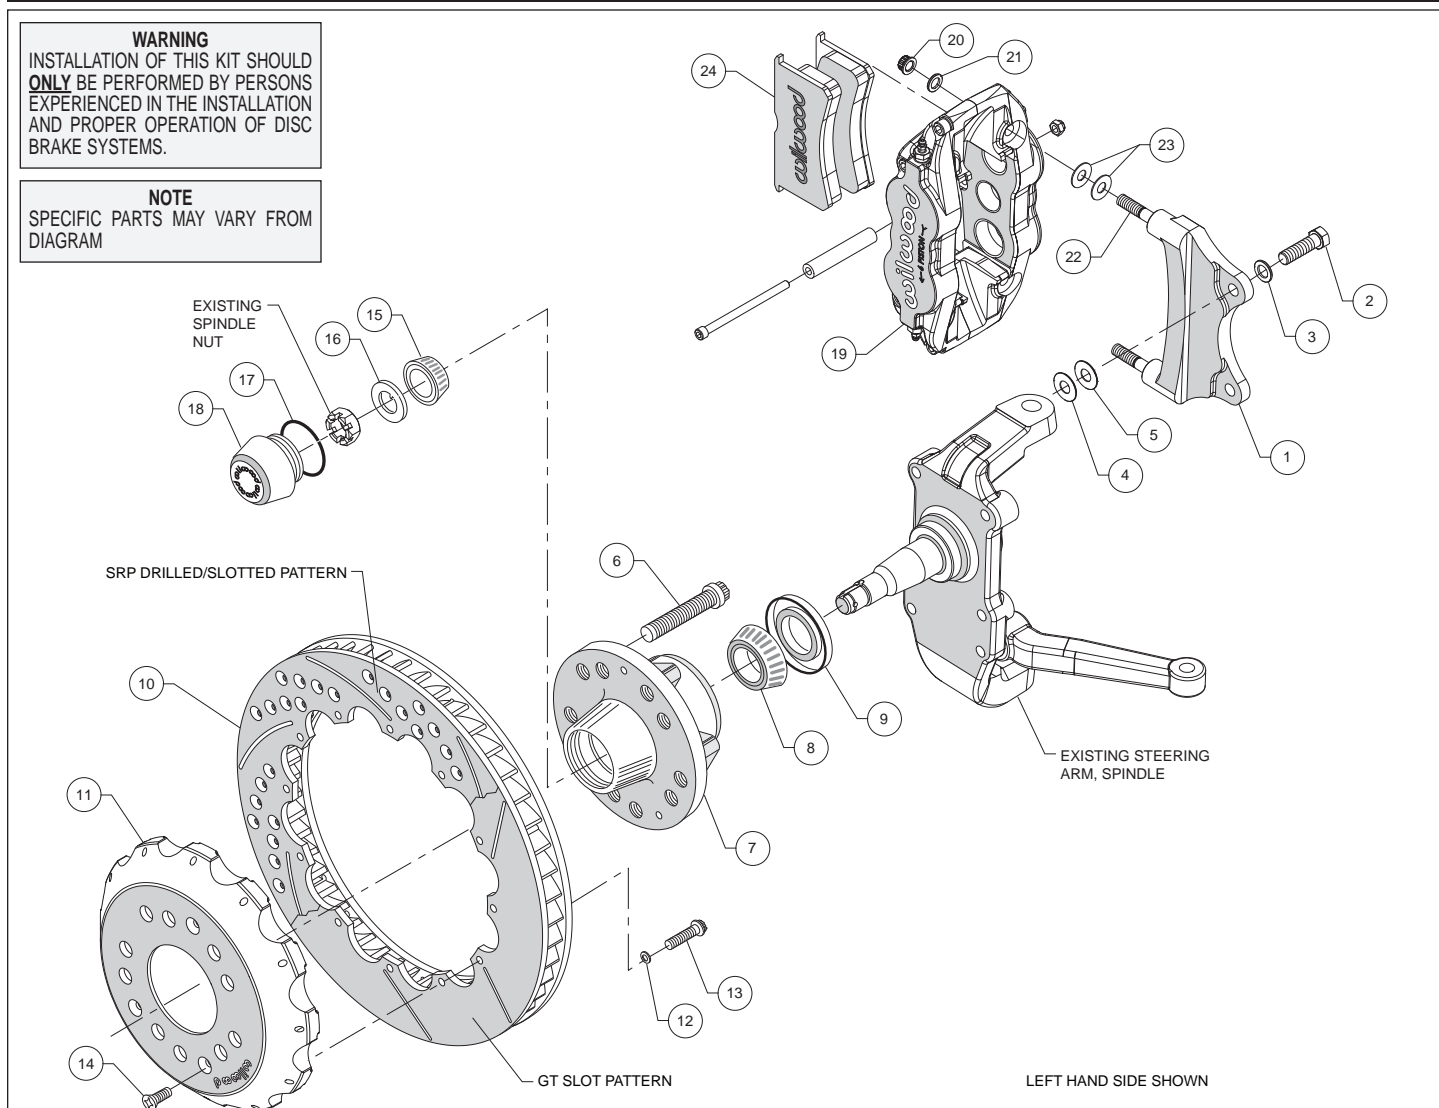
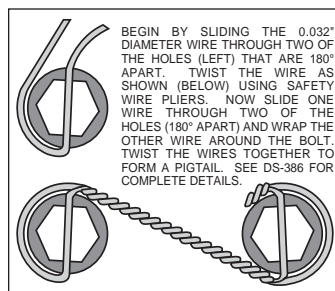

Figure 1. Typical Installation Configuration
Figure 3. Safety Wire Diagram
Assembly Instructions (numbers in parenthesis refer to the parts list on the preceding page, and Figure 1):
- The caliper mount bracket (1) should initially be installed with clean, dry threads on the mounting bolts. Orient the bracket as shown in Figure 1, and install using bolts (2) and washers (3). Initially place one each .016" thick shim (4) and .030" thick shim (5) on each bolt between the bracket and upright, Figure 1 and Photo 1. Temporarily tighten the mounting bolts. **NOTE:** The bracket must fit squarely against the mount bosses on the upright. Inspect for interference from casting irregularities, machining ridges, burrs, etc. Later, after the caliper alignment has been checked, the mount bolts will be secured using red *Loctite*® 271.
- Pack the large inner bearing cone (8) with high temperature disc brake bearing grease (available from your local auto parts store) and install into the backside of the hub (7), Photo 3.
- Install the grease seal (9) by pressing into the backside of the hub (7), flush with the end of the hub, Photo 3.
- Orient the rotor (10) and the hat (11) as shown in Figure 1 and Photo 4. Attach rotor to hat using bolts (13) and washers (12). Using an alternating sequence, apply red *Loctite*® 271 to the threads, and torque to 155 **in-lbs**. For an added measure of security, the bolts may be safety wired using standard 0.032 inch diameter stainless steel safety wire as shown in Figure 3. Refer to Wilwood's data sheet DS-386 (available at www.wilwood.com/Pdf/DataSheets/ds386.pdf) for complete safety wire installation instructions.
- Slide the hat/rotor assembly (10/11) onto the hub (7) taking care to align the small countersunk holes in the hat (11) with the small threaded holes in the hub. **NOTE:** The hat must fit flush against the hub face or excessive rotor run out may result. Install three flat head screws (14) through the small holes in the hat (11), Photo 6, and torque to 85 in-lb.
- NOTE:** This kit contains distinct right and left hand calipers that must be mounted in a specific direction, as described below. Lubricate the caliper mounting studs (22) with lightweight oil. Initially place two .035" thick shims (23) on each stud between the caliper and the bracket, as shown in Figure 1 and Photo 7. Mount the caliper (19) onto the bracket (1) using lock nuts (20) and washers (21), Figure 1. Ensure that the caliper is mounted so the largest pistons are at the rotor exit end of the caliper, in relation to the direction of rotor rotation. Temporarily tighten the lock nuts and view the rotor through the top opening of the caliper. The rotor should be centered in the caliper, Photo 8. If not, adjust by adding or subtracting shims (4 and/or 5) between the bracket and the upright. Always use the same amount of shims on each of the two mounting bolts. Once the caliper alignment is correct, remove the bracket mounting bolts one at a time, apply red *Loctite*® 271 to the threads, and torque to 55 ft-lb.